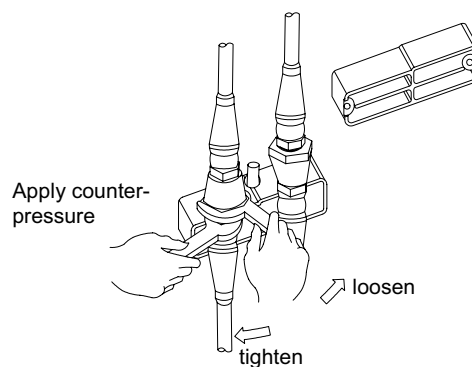

Fig. 14
9. Unscrew the left cap nut with the wrench supplied SW 24. *Make sure to apply counter-pressure on the lower coupling with the second wrench SW 21 (Fig 14).*